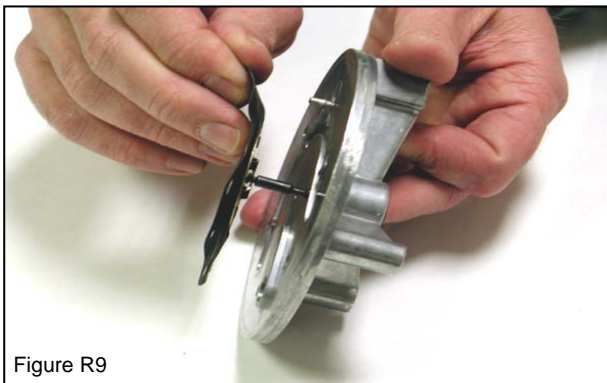

Figure R9
5. Turn the regulator body over with the rear fuel inlet plate facing up. Remove the primary valve access plug (7), the primary valve (8) and the primary valve o-ring seal (9). The primary valve goes through the inlet plate, then through the body assembly and is retained by the primary diaphragm (Figure R9).
6. Remove the body gasket (10), body o-ring seal (11) and the fuel inlet plate, exposing the fuel inlet expansion chamber and the coolant passage.